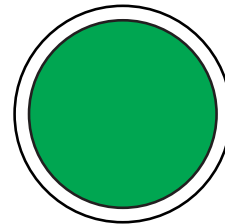

Figure 46. Circuit Breaker ON Button (ON/GREEN)
9. Press the **Circuit Breaker ON button** (Figure 46). The button LED will turn **ON (green)** and power will be supplied to the output terminals and receptacles.
3. The main circuit breaker will automatically turn **ON** after the engine starts. Observe that the LED on the **Circuit Breaker ON button** has turned **ON (green)**. See Figure 46.